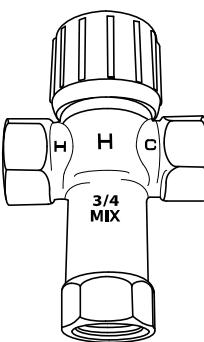

Figure 7 - Thermostatic Mixing Valves installed at each point-of-use can help prevent scalding.
- Point-of-use Thermostatic Mixing Valves (see Figure 7 on page 8).
Install Thermostatic Mixing Valves (Figure 7) to regulate the temperature of the water supplied to each point-of-use (for example, kitchen sink, bathroom sink, bath, shower). Consult the valve manufacturer's instructions or a qualified person.
⚠ WARNING! Even if the water heater thermostat is set to a relatively low temperature, hot water can scald. **Install Thermostatic Mixing Valves at each point-of-use to reduce the risk of scalding (see page 4 and Figure 7).**